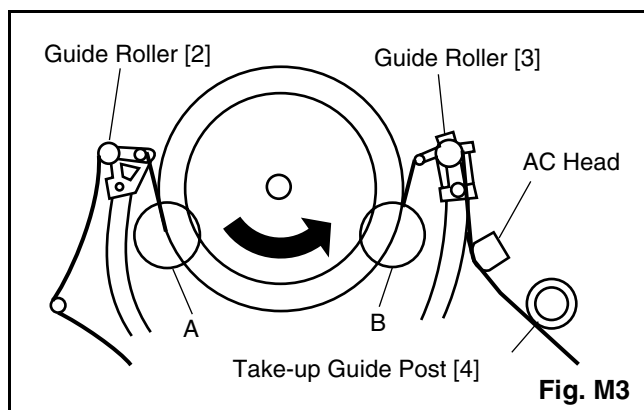
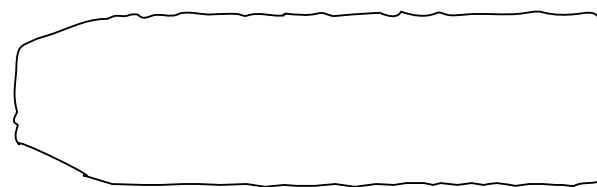
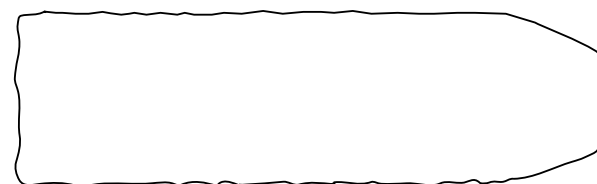
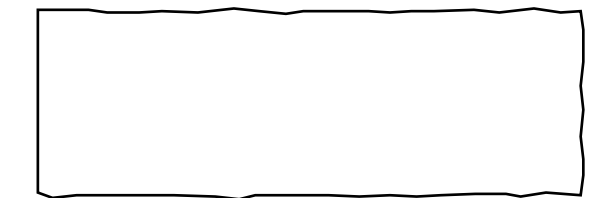

Fig. M3
Fig. M7
Fig. M8
Fig. M9
1. Play back a blank cassette tape and check to see that the tape runs without creasing at Guide Rollers [2] and [3], and at points A and B on the lead surface. (Refer to Fig M3 and M4.)
2. If creasing is apparent, align the height of the guide rollers by turning the top of Guide Rollers [2] and [3] with a Guide Roller Adj. Screwdriver. (Refer to Fig. M3 and M5.)
3. Check to see that the tape runs without creasing at Take-up Guide Post [4] or without snaking between Guide Roller [3] and AC Head. (Fig. M3 and M5)
2. Play back the Gray Scale on the Alignment Tape (FL8N). Set the Tracking Control Circuit to the center position by pressing CH UP button and then "PLAY" button on the unit. Adjust the height of Guide Rollers [2] and [3] (Fig. M3, Page 2-3-3) watching the oscilloscope display so that the envelope becomes as flat as possible. To do this adjustment, turn the top of the Guide Roller with the Guide Roller Adj. Screwdriver.
3. If the envelope is as shown in Fig. M7, adjust the height of Guide Roller [2] (Refer to Fig. M3) so that the waveform looks like the one shown in Fig. M9.
4. If the envelope is as shown in Fig. M8, adjust the height of Guide Roller [3] (Refer to Fig. M3) so that the waveform looks like the one shown in Fig. M9.
5. When Guide Rollers [2] and [3] (Refer to Fig. M3) are aligned properly, there is no envelope drop either at the beginning or end of track as shown in Fig. M9.
Note: Upon completion of the adjustment of Guide Rollers [2] and [3] (Refer to Fig. M3), check the X Value by pushing the CH UP or DOWN buttons alternately, to check the symmetry of the envelope. Check the number of pushes to ensure center position. The number of pushes CH UP button to achieve 1/2 level of envelope should match the number of pushes CH DOWN button from center. If required, redo the "X Value Alignment."